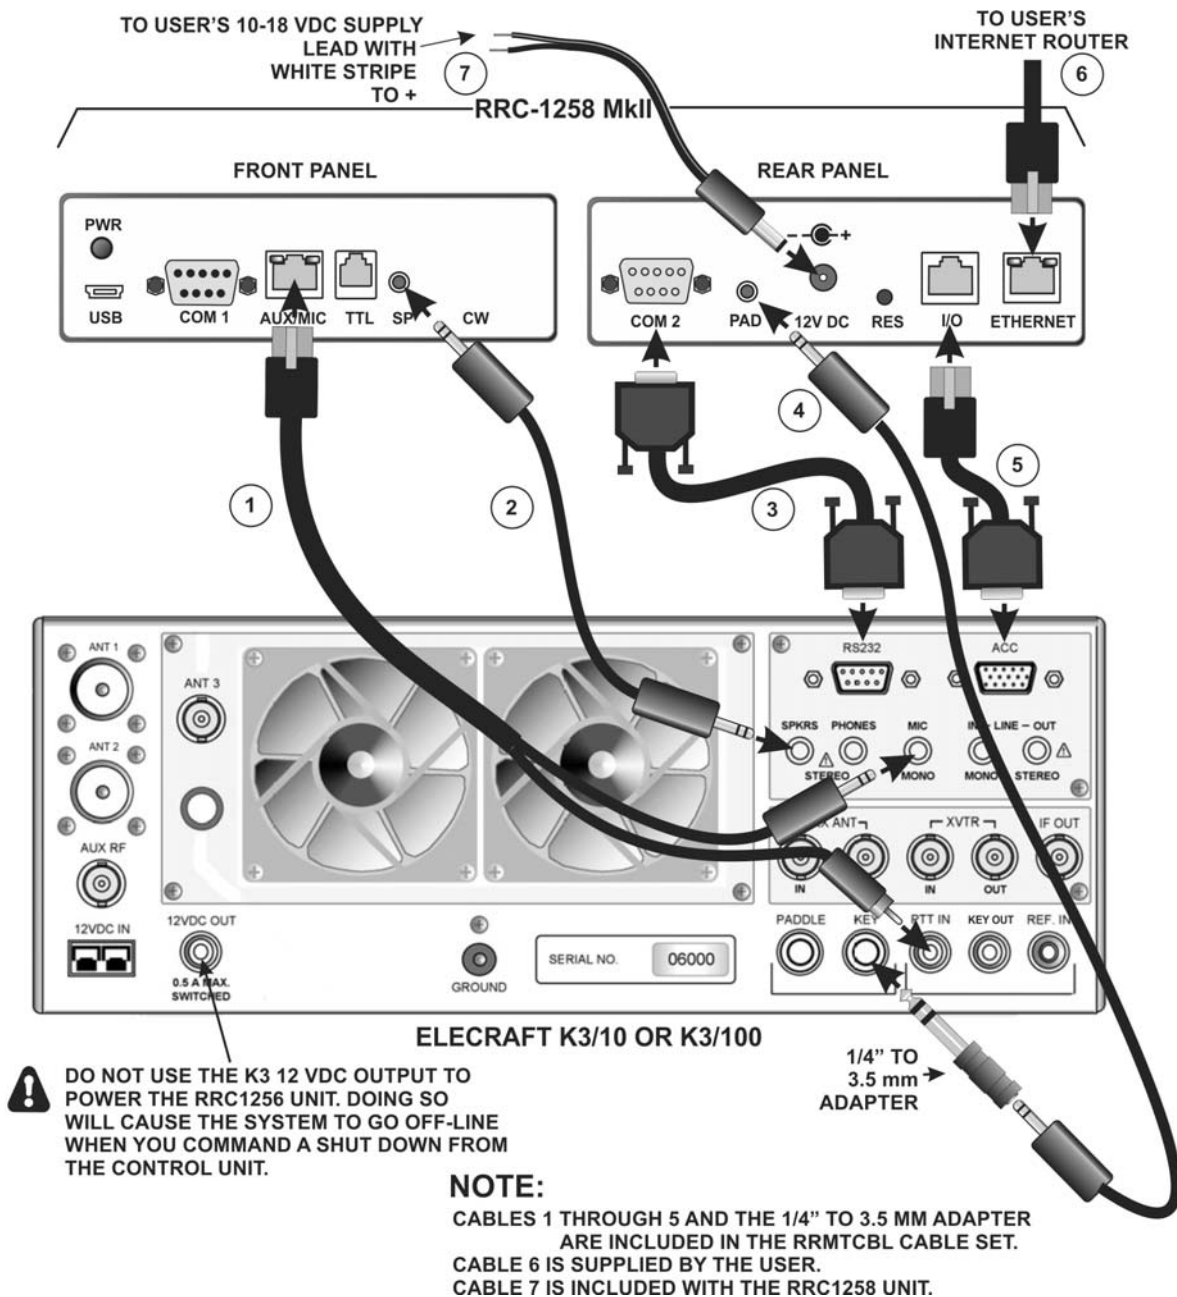

Figure 12
3. Cable the remote site K3 to the RRC-1258 unit as shown in Figure 12 using the RRMTCBL cable set. You must use the RRC-1258 unit that *does not* have the CW knob on the front panel.